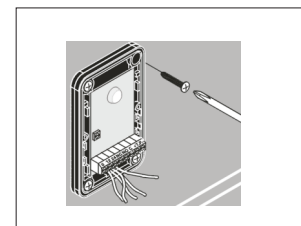

Fig. 7
- 6 - Mount the photocell with the screws supplied (Fig. 7);